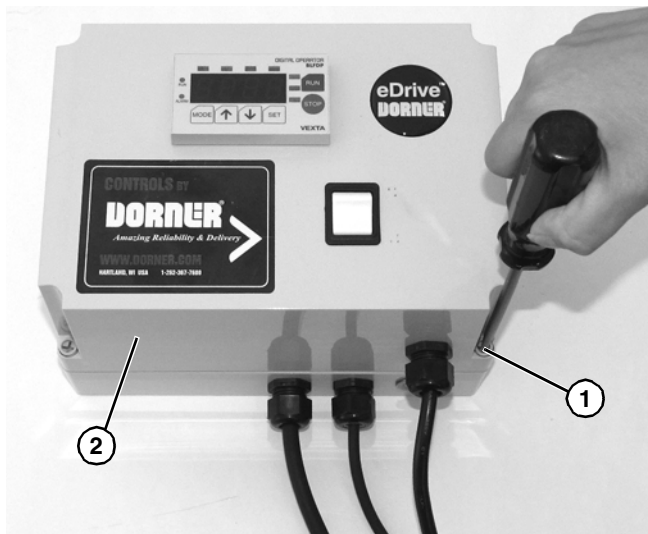

Figure 8
1. Open controller by loosening four plastic cover screws (Figure 8, item 1), and removing controller case cover (Figure 8, item 2).